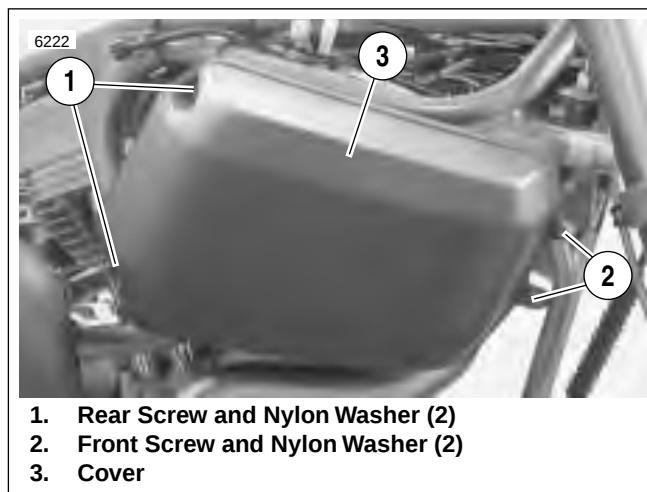
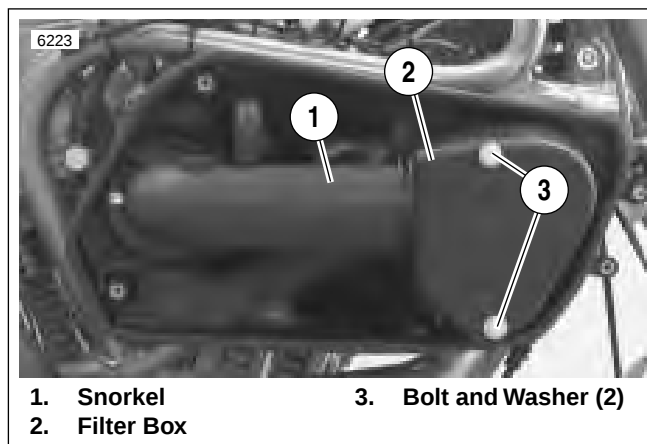
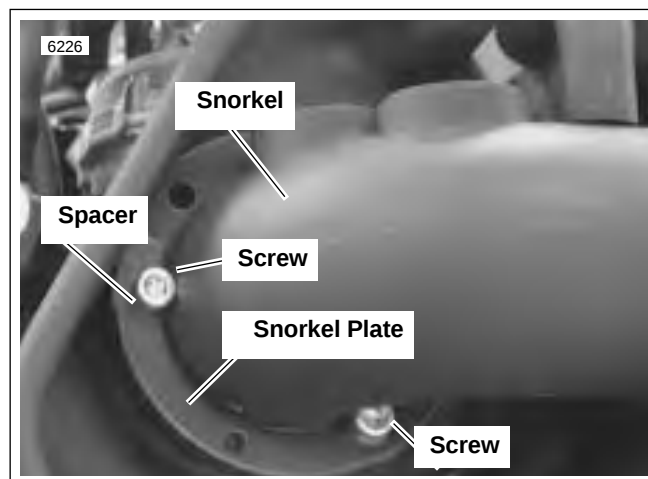

Figure 4-102. Air Cleaner Cover
Figure 4-103. Filter Box
Figure 4-106. Air Cleaner Front Mount
1. See Figure 4-102. Remove both front screws and nylon washers (2).
3. Remove both rear screws and nylon washers (1). Remove cover (3) and fairing lower if present.
5. See Figure 4-103. Remove two bolts and washers (3) from filter box (2). Slide filter box forward, away from snorkel (1).
9. See Figure 4-106. Remove two screws (1) and snorkel plate (2). Remove snorkel (3).
6. See Figure 4-106. Install snorkel.
- a. Apply LOCTITE THREADLOCKER 243 (blue) to screws (1).
- b. Align snorkel (3) on spacer (4) and spacer screw.
- c. Attach snorkel to backplate assembly using snorkel plate (2) and two screws (1). Tighten to 6-8 ft-lbs (8-11 Nm).
7. See Figure 4-103. Install front breather hose (3) on front breather bolt (2). Attach rear breather hose (1) to breather tee (4).
9. See Figure 4-103. Place filter element in filter box (2). Attach filter box to snorkel (1).
10. Apply LOCTITE THREADLOCKER 243 (blue) to bolts (3). Fasten filter box to backplate with bolts and washers (3).
12. See Figure 4-102. Place cover (3) over backplate assembly. Install both rear screws and nylon washers (1).
13. Install both front screws and nylon washers (2).